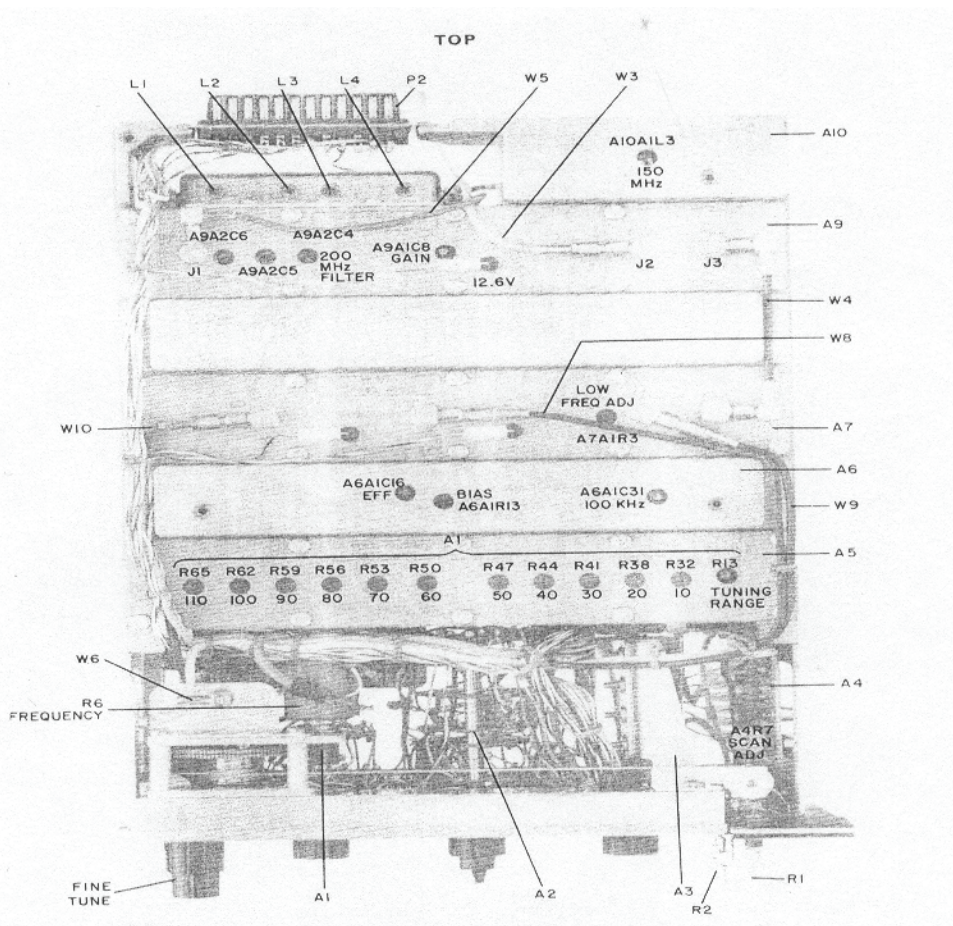

Figure 6. Model 8553() - adjustment locations.
(1) Connect TI and IF plug-in to extender and connect extender to display section.
(2) Adjust **FREQUENCY** control to 0 MHz.
(3) Set **SCAN WIDTH** (red) switch to **ZERO** and center **TUNING RANGE** adjustment A5A1R13 (fig. 6).
(4) Adjust A7A1R3 (fig. 6) for maximum baseline lift on display. This will indicate signal coincidence with **ZERO SCAN WIDTH** selected (R).
- (5) Set **SCAN WIDTH** (red) switch to **PER DIVISION** and adjust **FREQUENCY** control to 5 MHz.
- (6) Adjust **FREQUENCY FINE TUNE** control until half the local oscillator feed-through signal appears at left graticule line on display.
- (7) Adjust signal generator frequency to 10 MHz.
- (8) Adjust A5A1R32 (fig. 6) to align signal pip with right graticule line on display (R).
- (9) Readjust **FREQUENCY FINE TUNE** control as necessary to keep half of local oscillator feed-through signal aligned with left graticule line on display.
- (10) Adjust A5A1R13 (fig. 6) to align signal pip (100 MHz) with center graticule line on display.
- (11) Adjust signal generator to a frequency 10 MHz below nominal value listed in table 7.
- (12) Adjust **FREQUENCY FINE TUNE** control to align signal pip with left graticule line on display.
- (13) Adjust signal generator frequency to nominal values listed in table 7 and make corresponding adjustment until signal pip is aligned with right graticule line on display.
- (14) Repeat (10) through (12) above until no further adjustment is required.
- (15) Adjust A4R7 (fig. 6) until signal pip is aligned with center graticule line (R).
- (16) Adjust A13R5 (fig. 6) until local oscillator feed-through signal is aligned with center graticule line (R).
- (17) Adjust A13R2 (fig. 6) until signal pip is aligned with center graticule line (R).